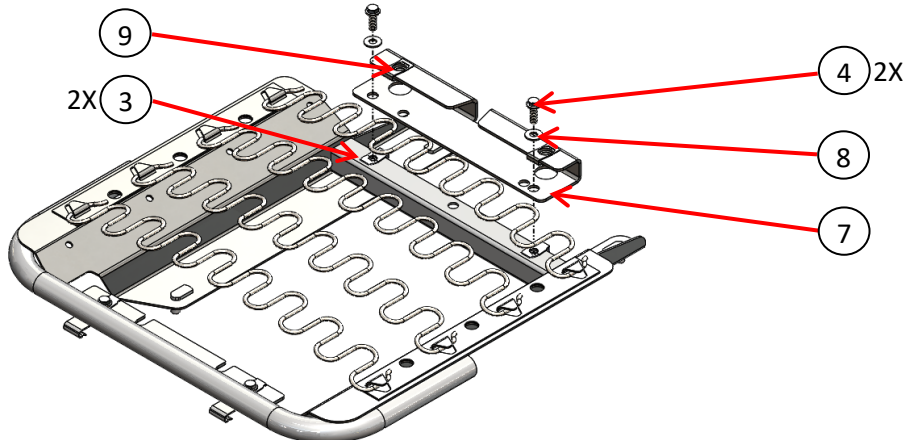

Figure 4
6. Attach U-nuts to channel support. See Figure 4.
7. Attach channel support to back of seat frame. See Figure 4.